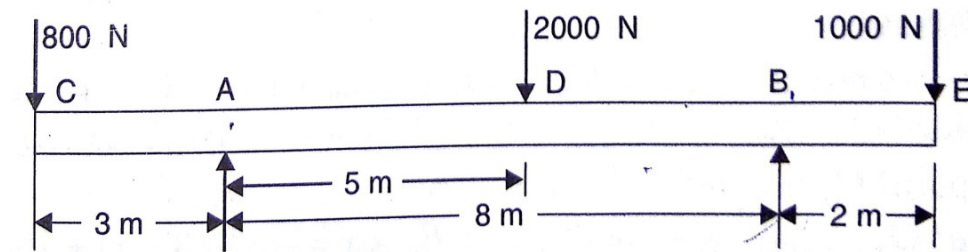

Fig:4
- OR iii. Draw the S.F. and B.M. diagrams for the beam which is loaded as shown in fig.4. Determine the points of contraflexure with in the span AB. 8